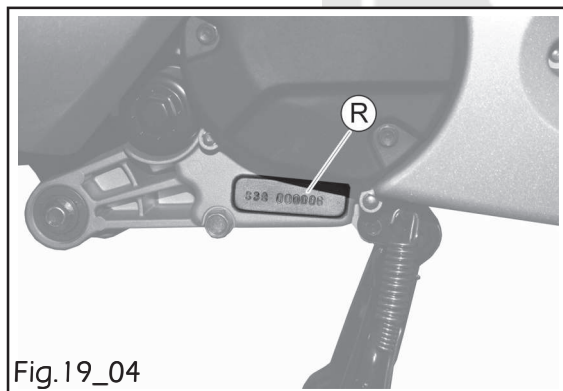

Fig.19_04
- The Engine Serial Number «R» (fig. 19_04) is stamped on the engine crankcase.